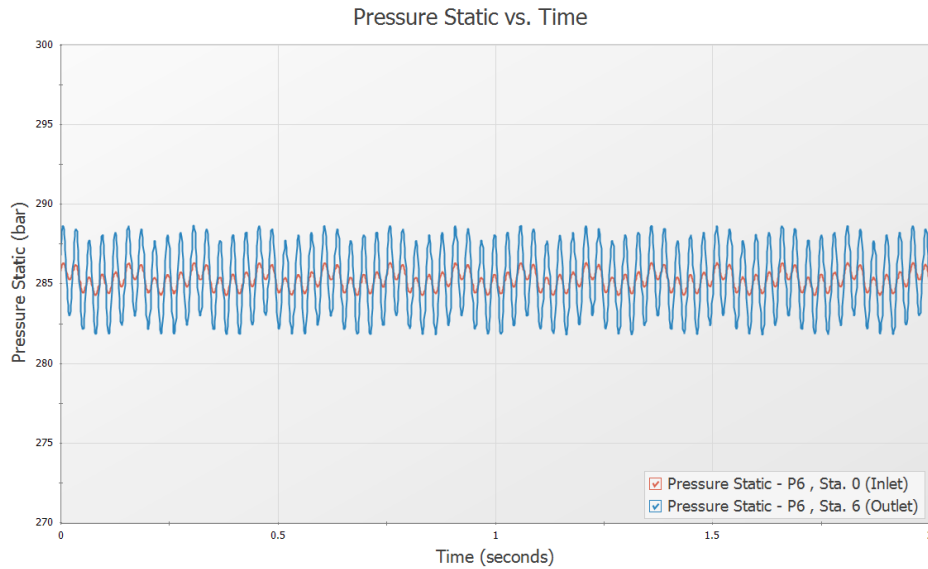

Figure 18: Pressure Oscillations at Inlet and Outlet of Pipe P6 for 133 RPM
8. Right-click on the y-axis and uncheck the Auto Scale option. Set the Minimum to 270, the Maximum to 300, and the Major Val to 5 (see Figure 18)